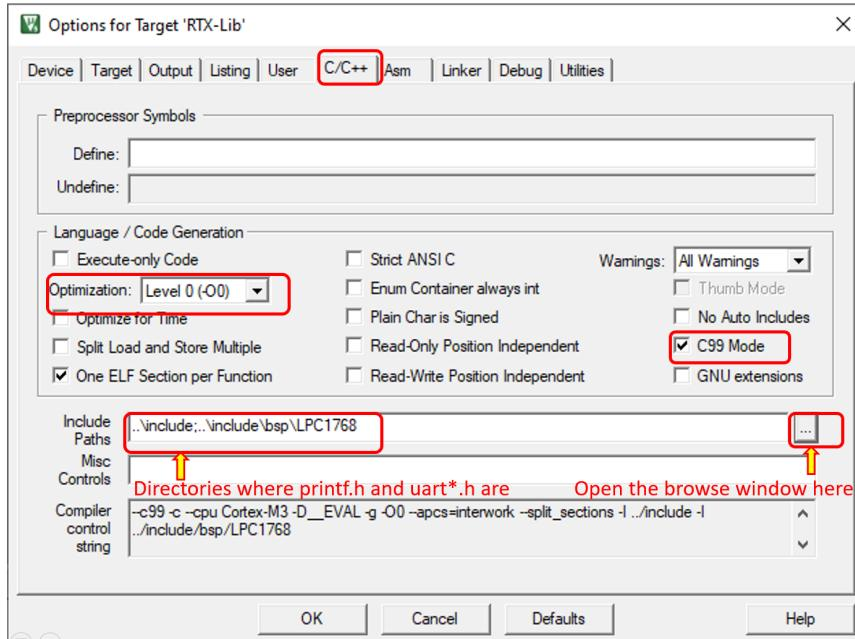

Figure 8.44: Keil IDE: Target Options C/C++ Tab Configuration
4. Configure the C/C++ tab as shown in Figure 8.44. In addition to the configuration you did for HellWorld application, you also need to specify the include path so the compiler knows where to find the header files. Note we moved the header files to a separate directory rather than having them in the same directory where the .c files are.
We need to specify the include path in the C/C++ tab of the target option since now all header files are in a separate folder (see Figure 8.44). And we need to do this update for both the SIM and RAM targets. We are now ready to build the application, just press the build button as usual (see Figure 8.17). You will see the application is built and a `.axf` file is generated (see Figure 8.48). You may either use the debugger to run it inside a simulator or on the board as usual.